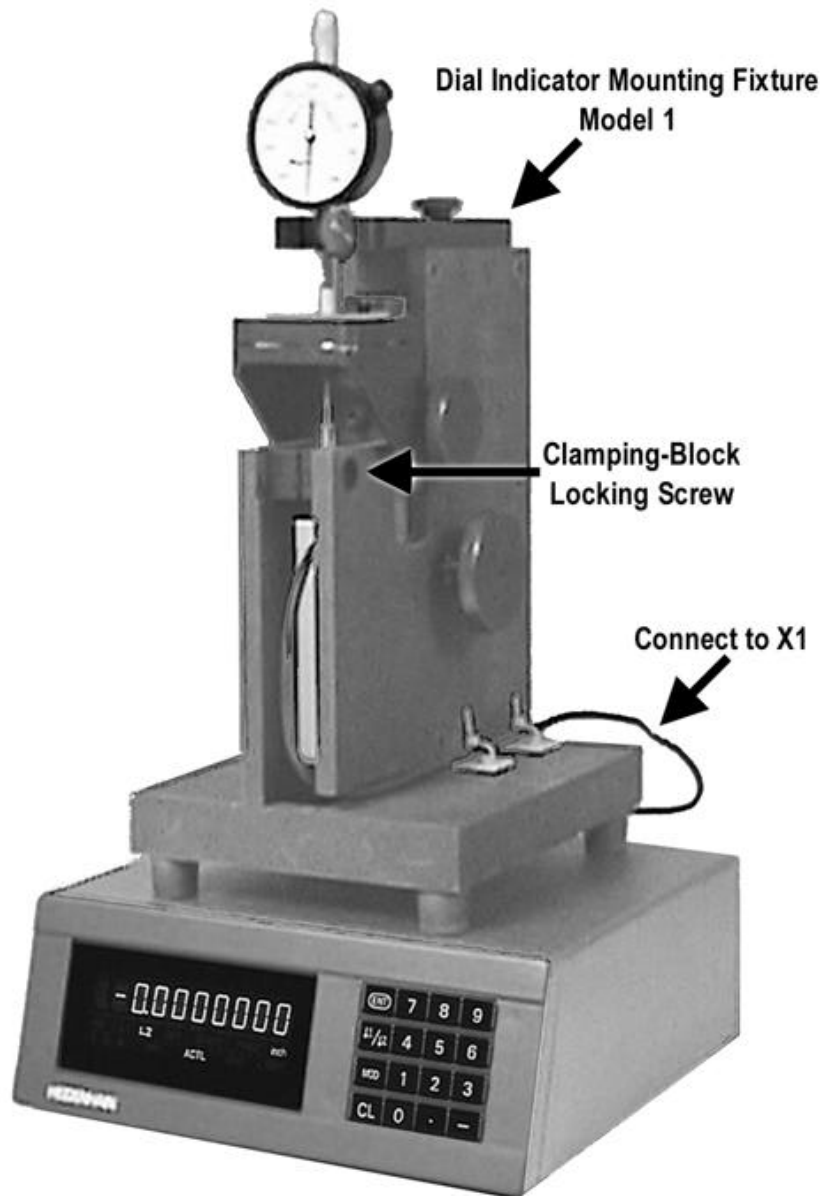

Figure 3. Dial indicator calibrator – equipment setup.
- e.** Connect equipment as shown in figure 3.
h. Fasten TI to dial indicator calibrator, as shown in figure 3, using dial indicator mounting fixture supplied with TI and/or dial indicator calibrator.
Adjustment procedure follows: Place the dial indicator calibrator (without indicator) in a horizontal (back down) position. Loosen the clamping-block locking screw (right-hand side - fig. 3) one-quarter turn counter clockwise, using a 3/16 inch Allen wrench. Position transducer as necessary; turn the clamping-block locking screw (fig. 3) one-quarter of a turn clockwise, using a 3/16 inch Allen wrench.